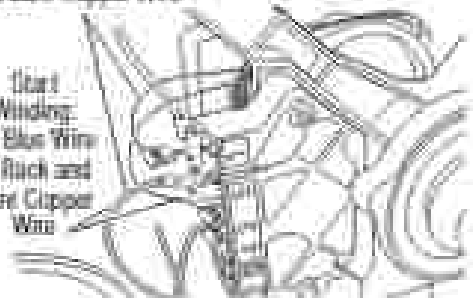

Figure 3 - Main and start winding measure points
9. Remove the bare copper wire terminal from pin 5 of black drive motor switch. See Figure 3.